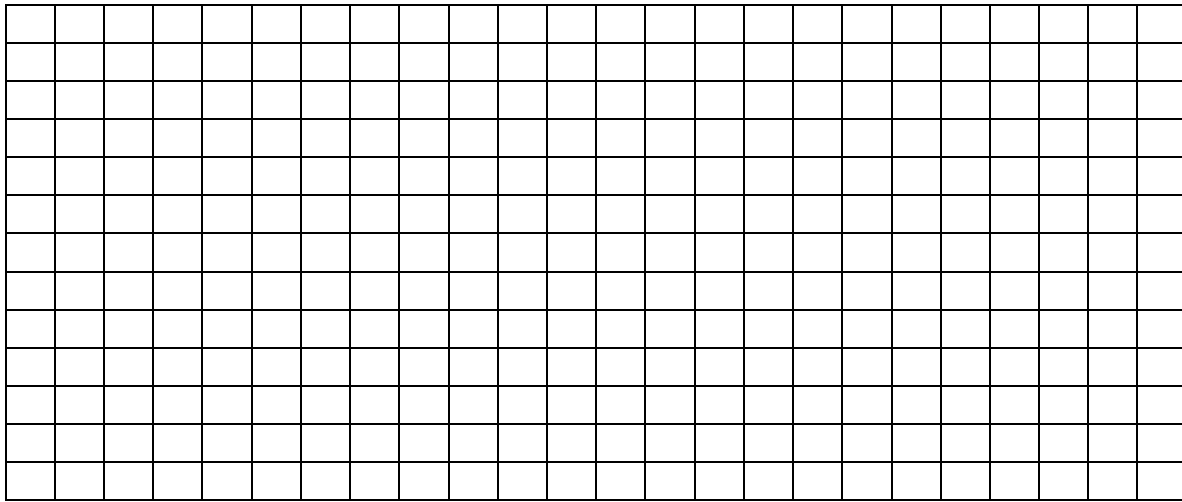

Fig 1.
- 4b) Sketch the waveform on the graph Fig 1 below.